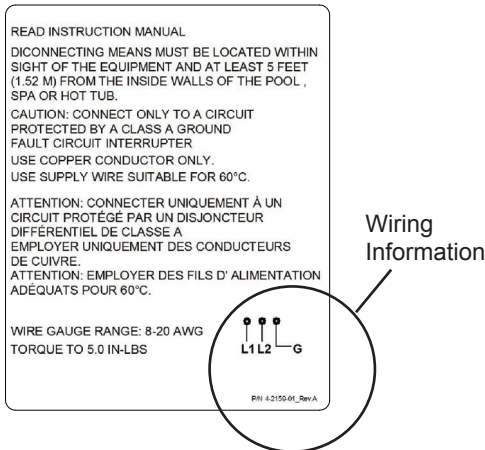

Figure 2. Wiring Information Label
4. Locate the Terminal Block inside enclosure. (Refer to wiring diagram on the label inside the enclosure door, see Figure 2.)
5. For 120V, connect Line to L1, Neutral to L2, and Ground to the terminal block, as indicated on the label inside the enclosure door (see Figure 2).
7. Replace two (2) screws in the front cover.